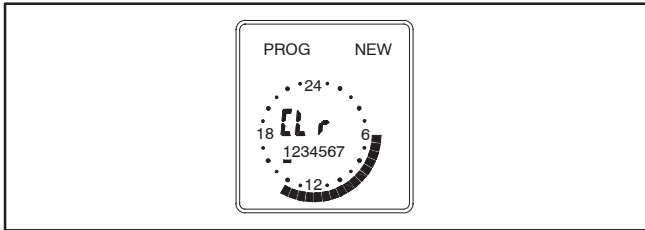

**FIGURE 15. COPY EXERCISE MENU**
1.. Once a set exercise program has been saved, press the selector button (⤵) to display the copy menu (see Figure 15).